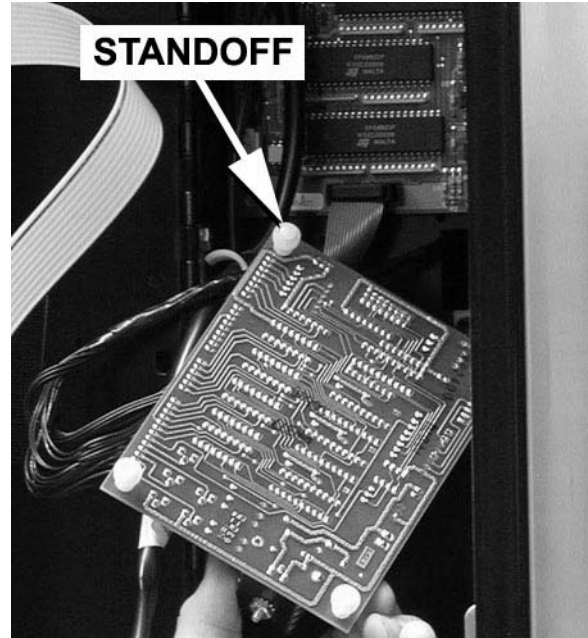

Figure 10
2. Place the board's standoffs in their respective holes and allow the board to drop so the standoffs are captured by the keyways (figure 10).